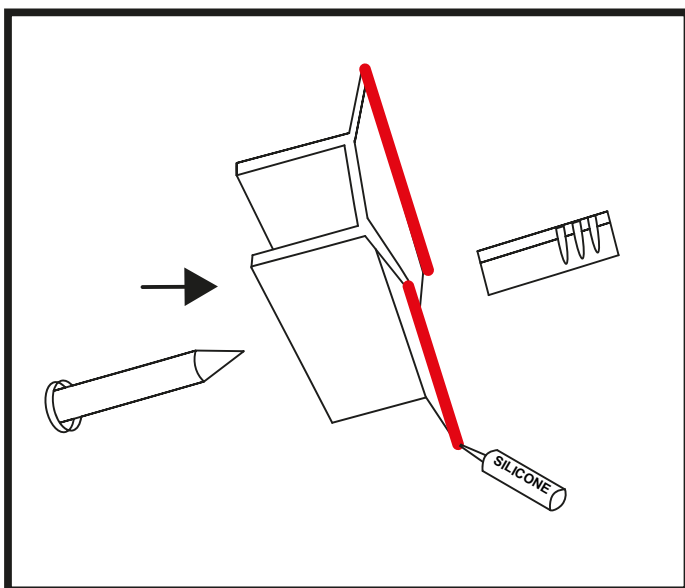

Figure 2
7. To attach the profile, apply silicone to the edges of the profile and place it on the wall, according to the previously marked locations. (Figure 2)